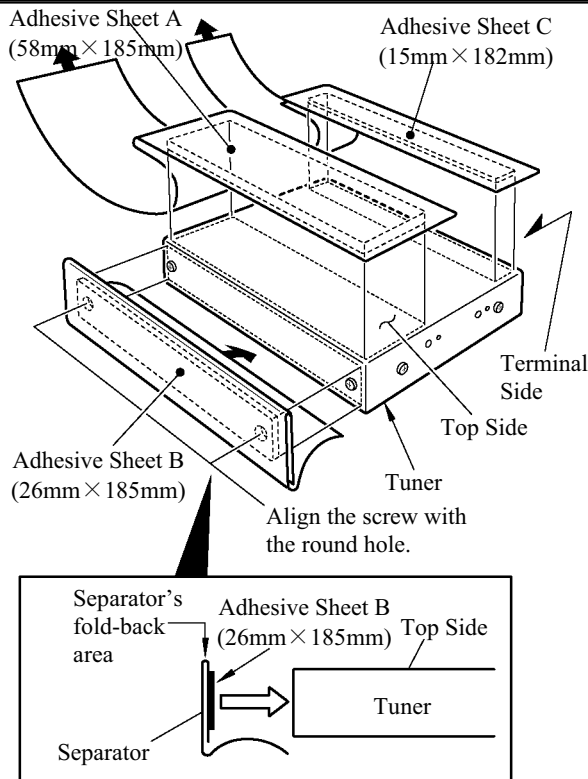

Fig. 6-5
(1) Attach adhesive sheets A, B and C to the tuner (Fig. 6-5).